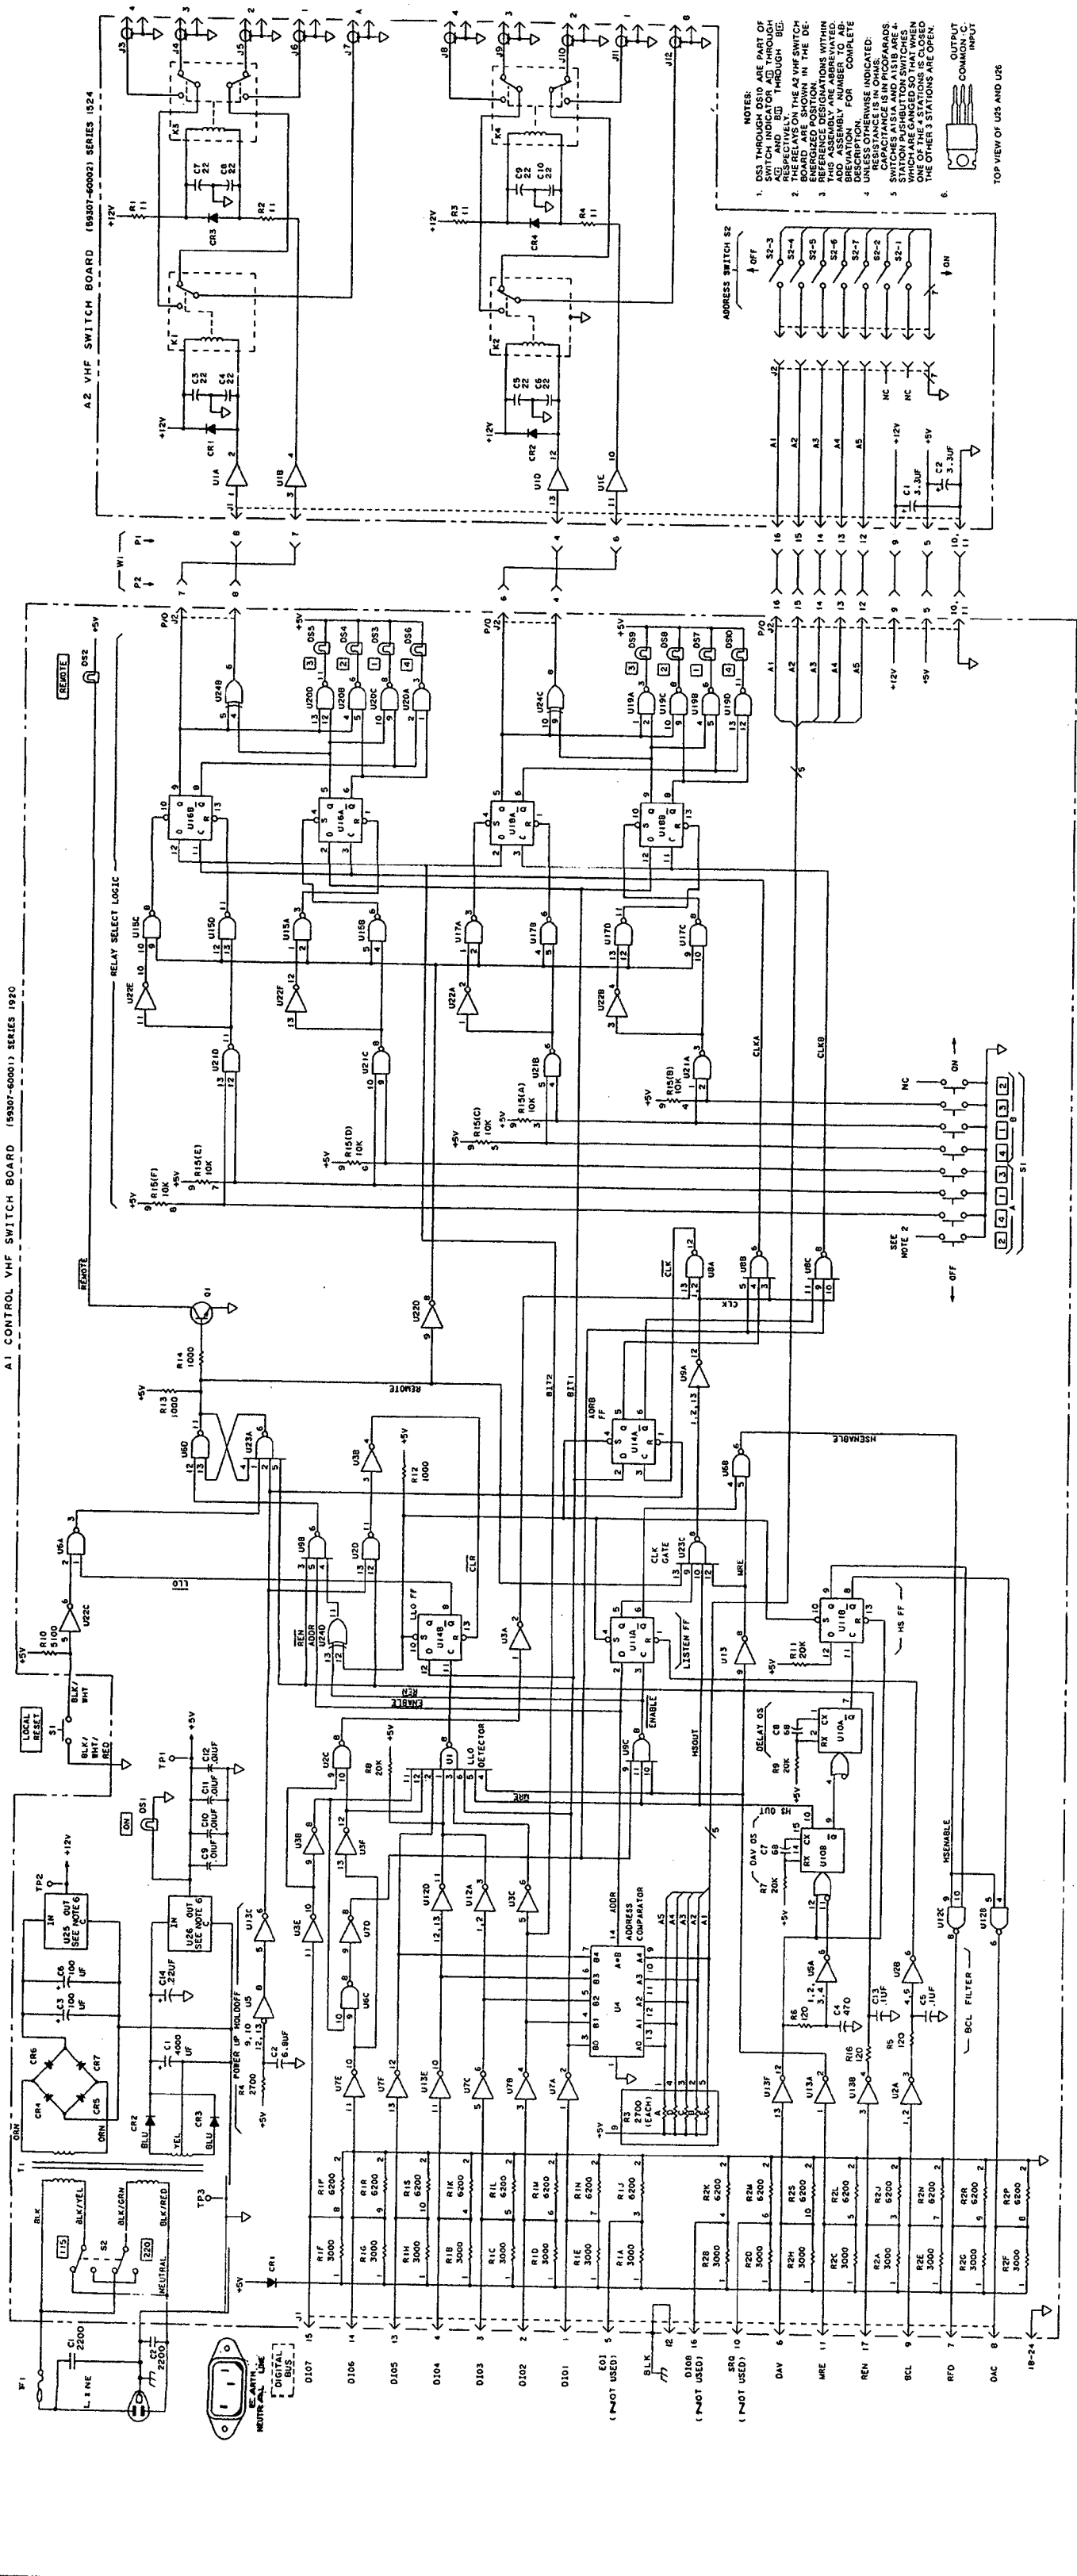

Figure 8-3
Page 8-5, Figure 8-3. 59307A SCHEMATIC DIAGRAM:
Modify the A1 Control assembly by adding A1C16 and A1C13 as shown in the schematic diagram (Figure 8-3). A trace connecting U13 pin 4 to U23 pin 5 will have to be cut to install R16. C13 can be soldered directly across pins 5 and 7 of U23 on the noncomponent side of the circuit board. (Previously described in Service Note 59307A-2.)
2. Series prefixed 1600A should already have a dual (.005 μ F) capacitor installed across the ac input lines (shown as C1 and C2 on the existing schematic diagram in Figure 8-3). For other configurations, modify by mounting two capacitors (2200 pF, HP P/N 0160-4281) directly onto the input power receptacle as shown in the schematic diagram in Figure 8-3.
P/O Figure 8-3. 59307A Schematic Diagram (Component Locator)